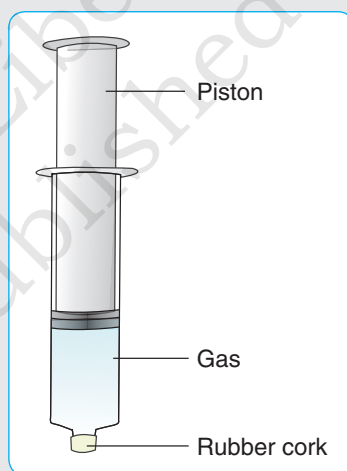

Fig. 6.20. Syringe
- Take three 100 mL syringes and close their nozzles by rubber corks, as shown Fig. 6.20.